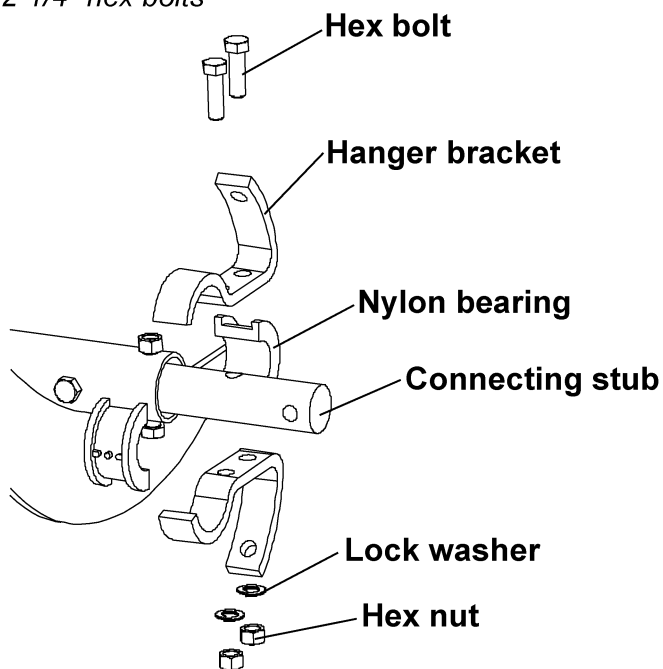

Figure 5E
- A. Bolt the nylon bearings and hanger brackets to the connecting stubs using hex bolts, lock washers and hex nuts as shown in Figure 5E.